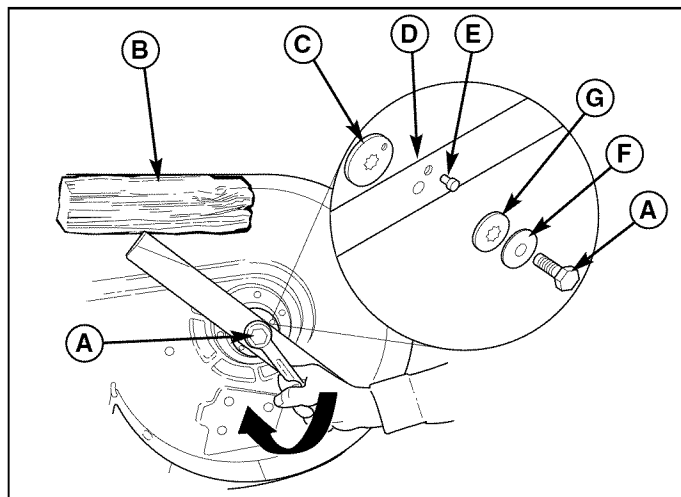
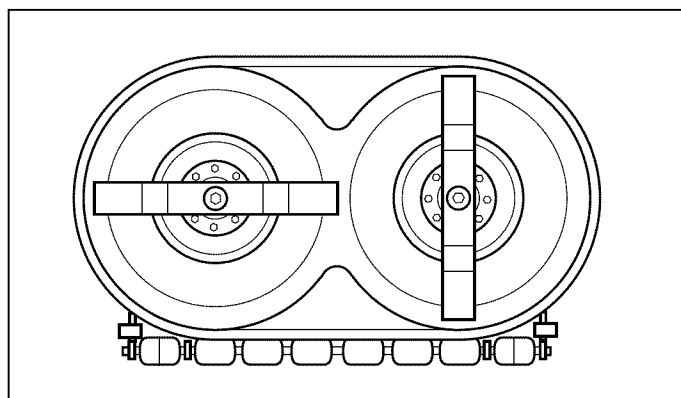

Figure 32. Blade Installation - 40" Mowers
Figure 33. Check Blade Timing
40" Mowers: Remove the capscrew (A, Figure 32), spring washer (F), spline washer (G), alignment pin (E) and blade (D). Do not remove the blade adapter (C).
40" Mowers: Be sure the blades are positioned perpendicular to each other as shown in Figure 33. If not, perform the Mower Blade Timing procedure found in this section. Reinstall the spline washer (G, Figure 32), spring washer (F) and capscrew (A). Use a wooden block (B) to prevent blade rotation while tightening the capscrew (A) to 61-75 N.m (45-55 ft. lbs.).
2. Turn the mower deck over and check the position of the blades. The blades must be positioned perpendicular to each other as shown in Figure 33. If not, proceed to step 3.
4. Remove the capscrew (A, Figure 32), spring washer (F), and spline washer (G).
5. Remove the alignment pin (E, Figure 32). Rotate the blade (D) manually until the blades are perpendicular to each other as shown in Figure 33. It may be necessary to remove and rotate the blade adapter (C) to align the blade hole and adapter hole.
6. Reinstall the alignment pin (E), spline washer (G), spring washer (F) and capscrew (A). Use a wooden block (B) to prevent blade rotation while tightening the capscrew (A) to 61-75 N.m (45-55 ft. lbs.).